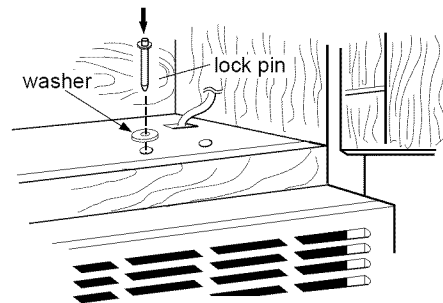

Figure 31
3. Drop the lock pin and washer assembly into hole **N** (left side hole) and push the pin down as far as it will go. See Figure 31.